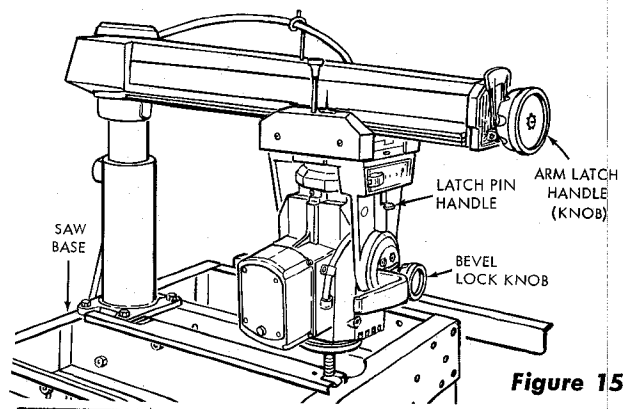

Figure 15
- b. Swivel the motor counterclockwise until the saw end of shaft is pointing straight down and the latch pin handle "snaps" into a detent. (See figure 15.) Tighten the bevel lock knob. If the motor shaft strikes some part of the saw base raise the elevation crank.